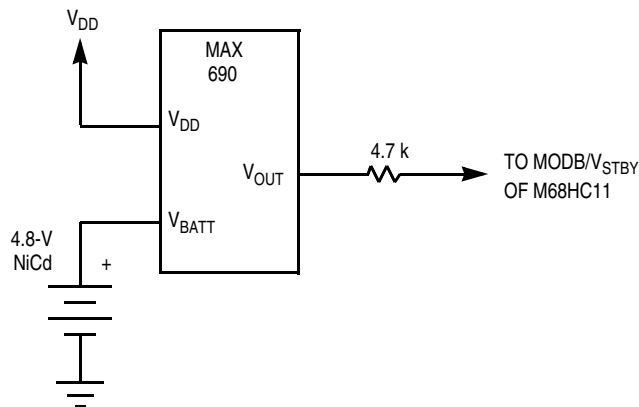

Figure 2-8. RAM Standby MODB/ V_{STBY} Connections
2. In the second method, the MODB/ V_{STBY} pin can supply RAM power from a battery backup or from a second power supply. Figure 2-8 shows a typical standby voltage circuit for a standard 5-volt device. Adjustments to the circuit must be made for devices that operate at lower voltages. Using the MODB/ V_{STBY} pin may require external hardware, but can be justified when a significant amount of external circuitry is operating from V_{DD} . If V_{STBY} is used to maintain RAM contents, reset must be held low whenever V_{DD} is below normal operating level. Refer to Section 5. Resets and Interrupts.